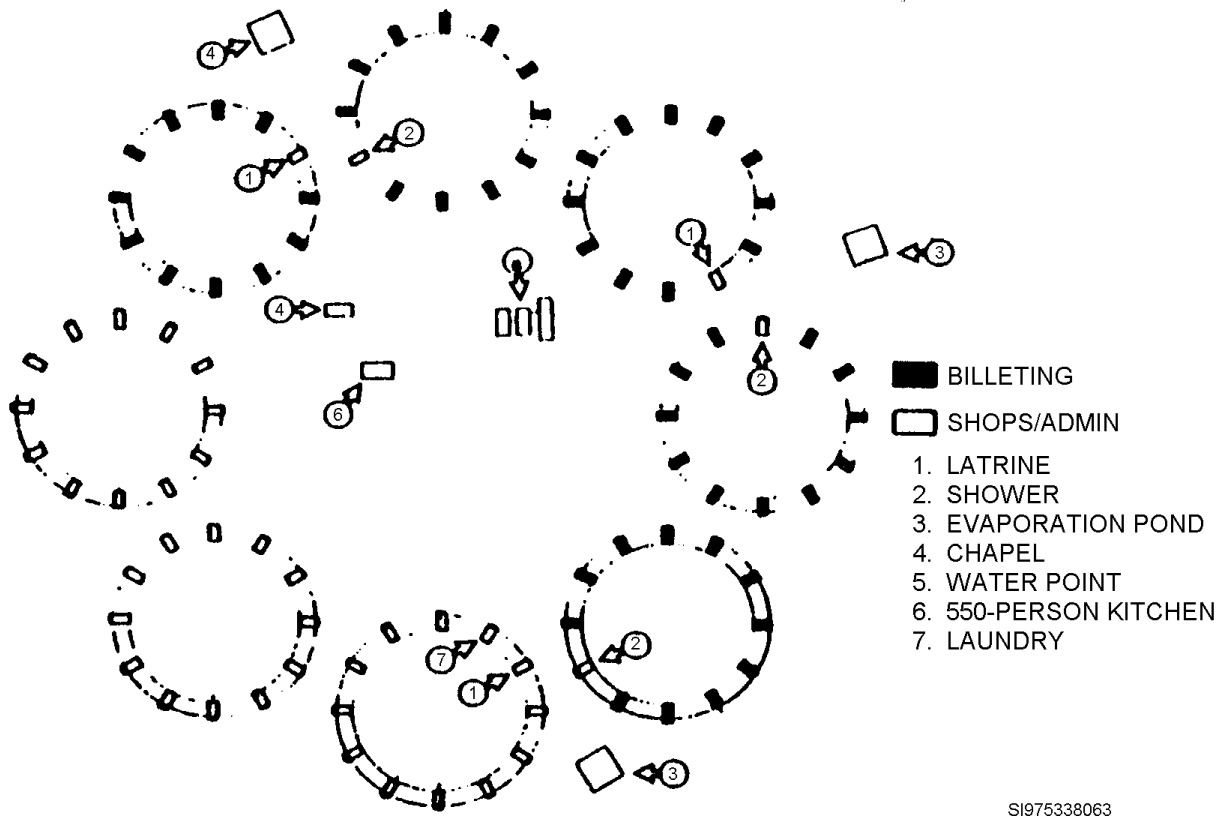

Figure 1, Module group layout-550 person bare base.
- The electrical system for each 550-person Harvest Eagle deployment supports eight separate modules, each of which is called a module group, as shown in figure 1.